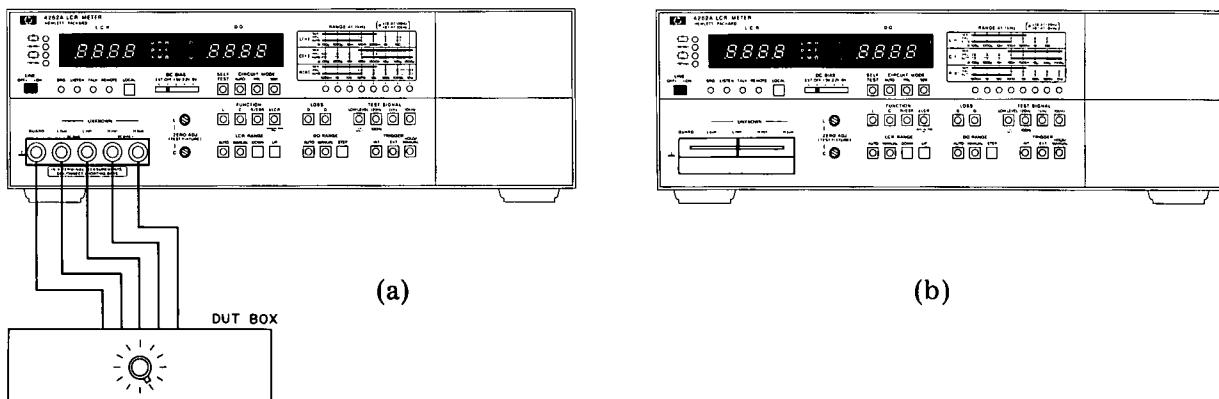

Figure 5-12. 10kHz Measurement Accuracy Adjustment.
(1) A13C1 Adjustment.
- a. Connect Test Leads (HP P/N 16361-61605) between 4262A UNKNOWN terminals and 16362A DUT Box as shown in Figure 5-12 (a). If DUT Box is not available, attach 16061A Test Fixture to 4262A UNKNOWN terminals [see Figure 5-12 (b)].
- g. Remove 16061A from 4262A UNKNOWN terminals and connect Test Leads (HP P/N: 16361-61605) between 4262A UNKNOWN terminals and 16362A DUT Box as shown in Figure 5-12 (a).